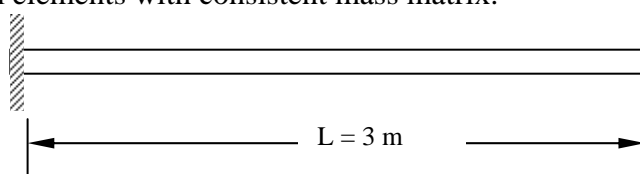

Fig. 5
b) Determine the natural frequencies of a cantilever beam shown in shown in Fig. 5. using 2 beam elements with consistent mass matrix. [6+10]